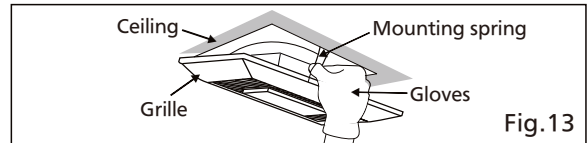

Fig.13
16. Insert the other mounting spring into the slot as shown and mount grille to fan body. (Fig.13)